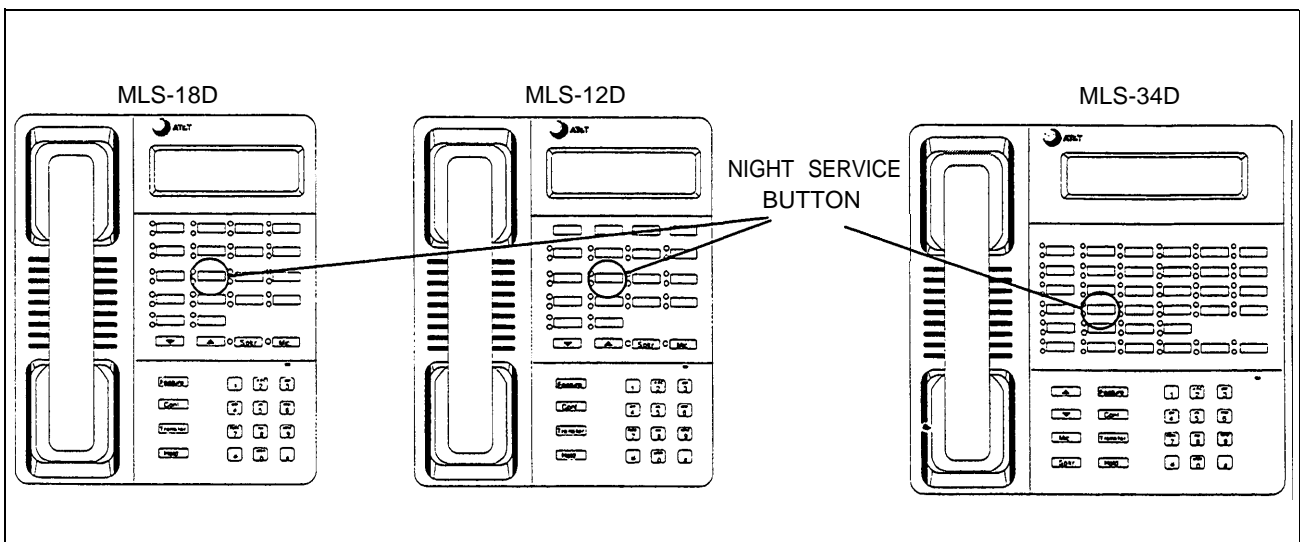

Figure 6-1 Turning Night Bell Service On/Off
4. Use the PARTNER Plus/II *Night Service Button (#503)* procedure to activate the Night Service feature (if not already done) see Figure 6-1.